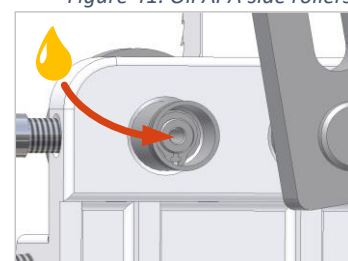

Figure 42: Oil APA back roller
- Unscrew the sealing cap from the back roller bearing (⇒ Figure 42).